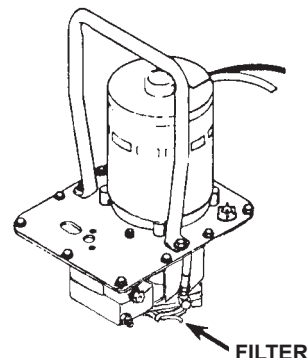

FIGURE 4
**IMPORTANT:** Do not damage the gasket or bump the filter or pressure regulating valves when lifting the pump and motor off the reservoir. See Figures 4 & 5.